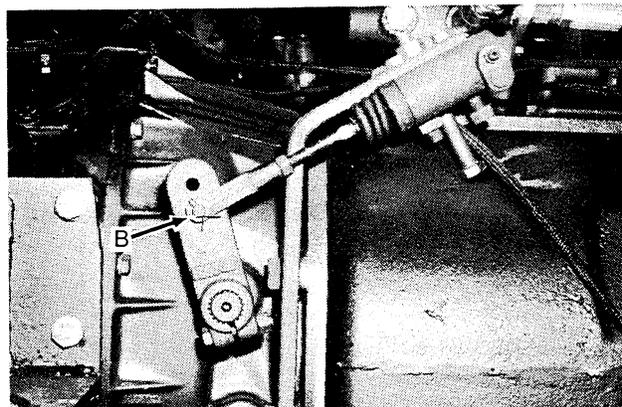

Figure 3:
5. Remove the pin from the slave cylinder rod clevis (B-Fig. 3).